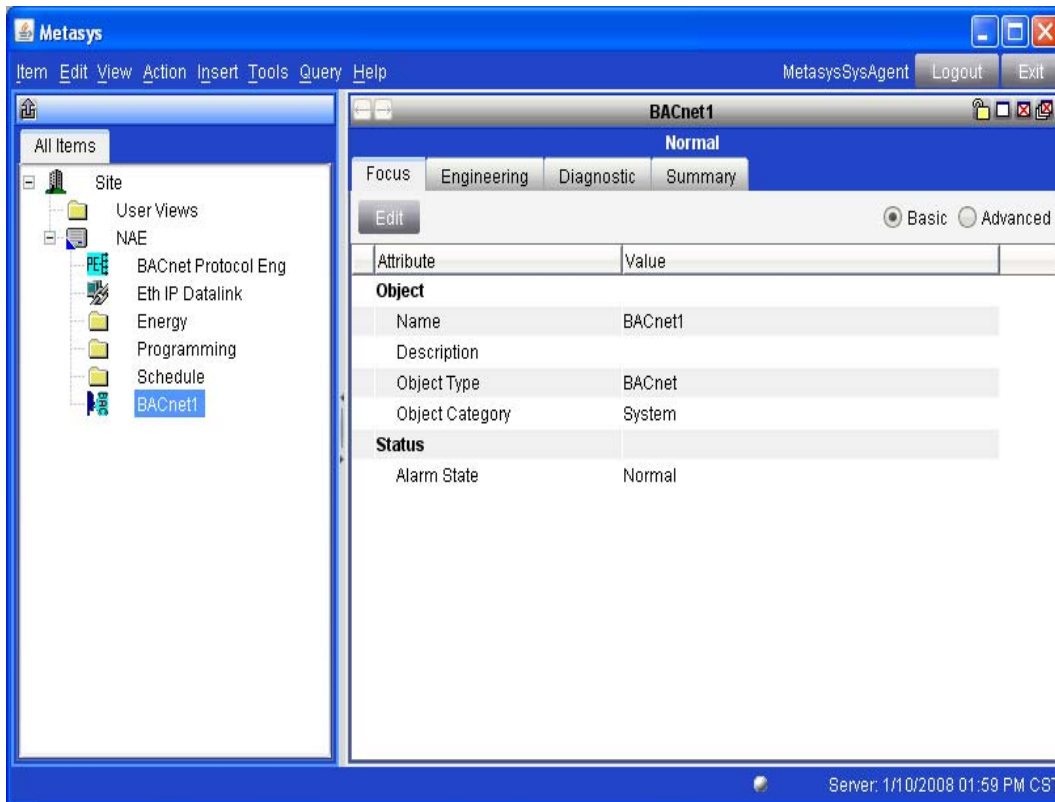

Figure 27: BACnet Focus Screen
1. Open the **BACnet Focus** screen (Figure 27), and click **Insert** on the menu bar to open the Insert drop-down menu.